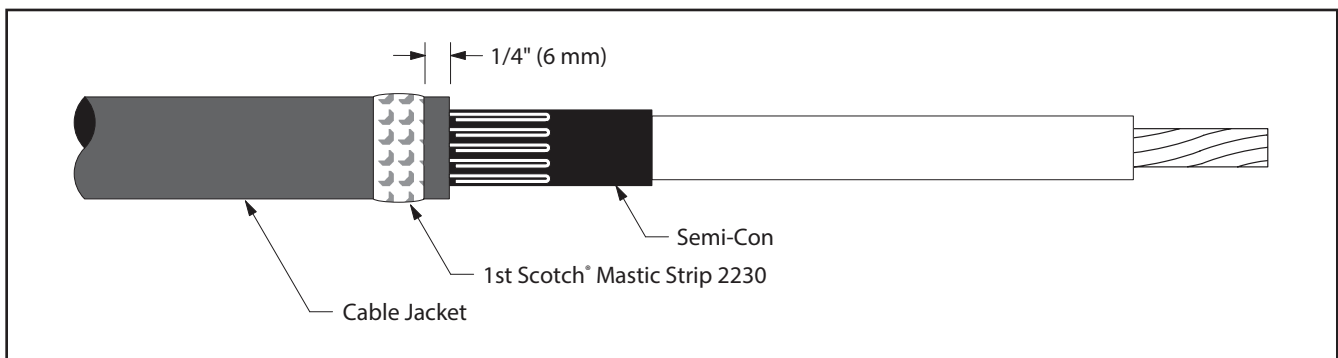

Figure 9
8.1 Select a Scotch® Mastic Strip 2230 from kit and remove white release liners. Using light tension, apply a **SINGLE WRAP** of mastic around the cable jacket 1/4" (6 mm) from cut edge (*Figure 9*). Cut off excess.